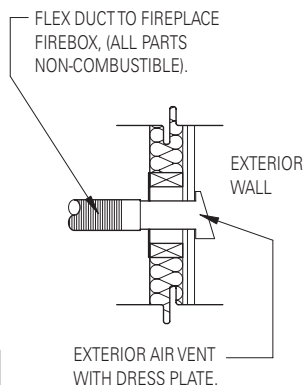

FIGURE 73
Two (2) 4" Combustion air inlet kits are recommended by Earthcore and may help improve fireplace operation in homes tightly sealed and with other ventilating appliances installed. **(Figures 73 & 74)** The following is a general representation of a combustion air kit that is required by Earthcore Industries.